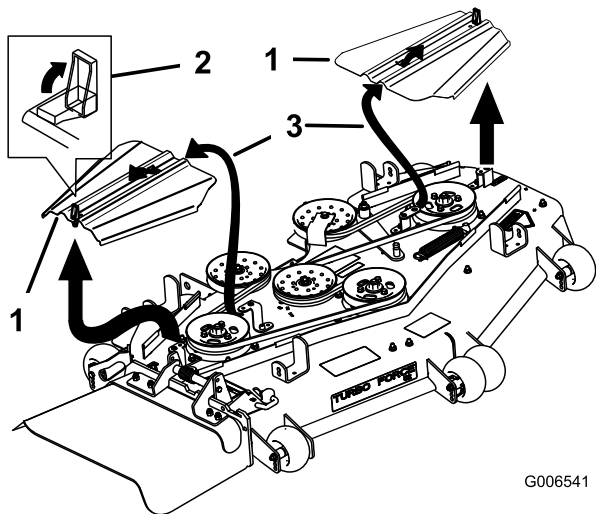

Figure 81
5. Remove the belt covers (Figure 81).